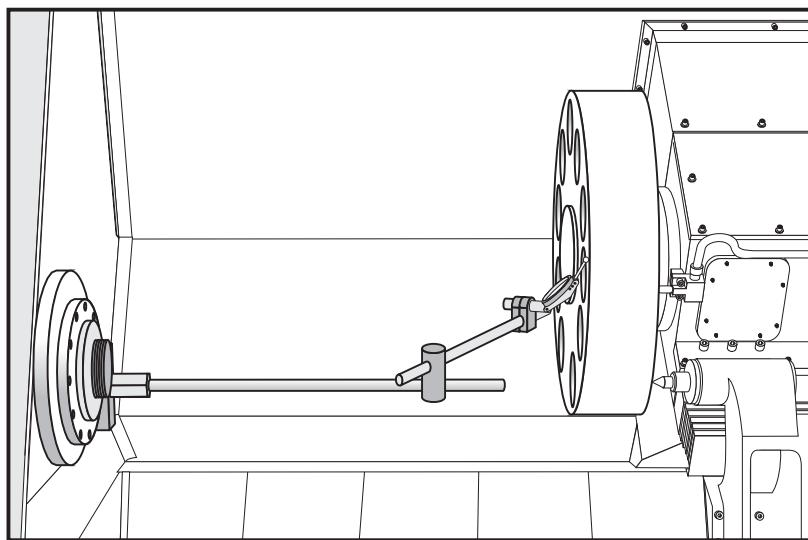

Fig. 4-2 Dial indicator in position to check Z-axis.
1. Place a dial indicator and base on the spindle retaining ring with the indicator tip positioned on the face of the turret as shown in Fig. 4-2.
An alternate method for checking backlash is to place the dial indicator as shown in Fig. 4-2 and manually push on the turret in both directions. The dial indicator should return to zero after releasing the turret. **NOTE:** The servos must be on to check backlash by this method.